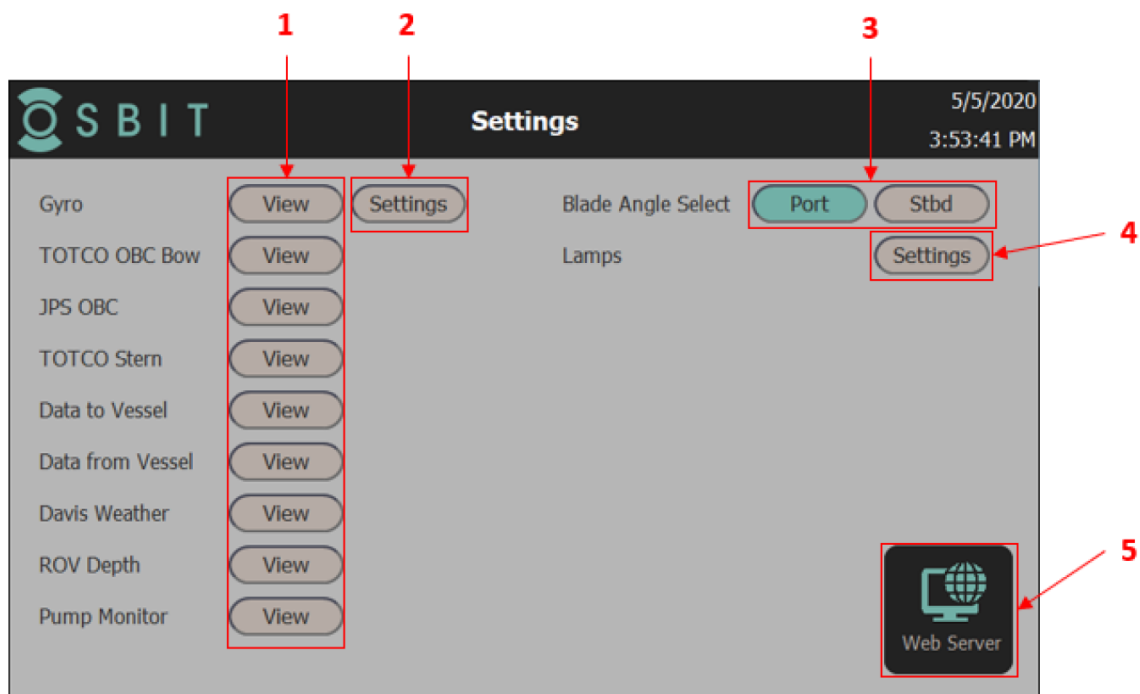

Figure 7 - Settings Page - Plow Control System
- Settings Page – See Figure 7